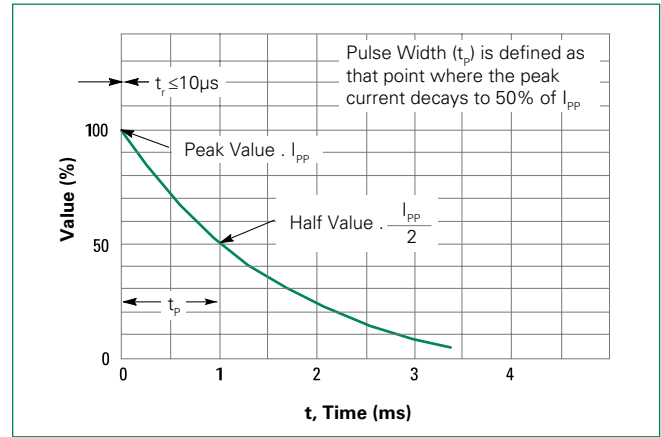

Figure 3.
8. Surge current waveform per Figure 1 and derate per Figure 3 of the General Data - 600 Watt at the beginning of this group.